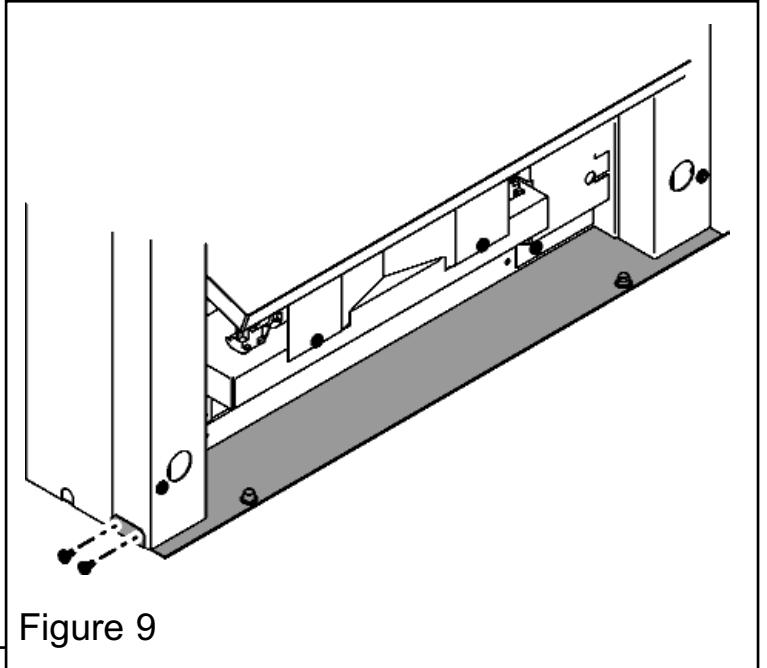

Figure 9
1. Secure the cover plate to the base of the heater using four No.8 x 3/8 screws supplied (See figure 9).